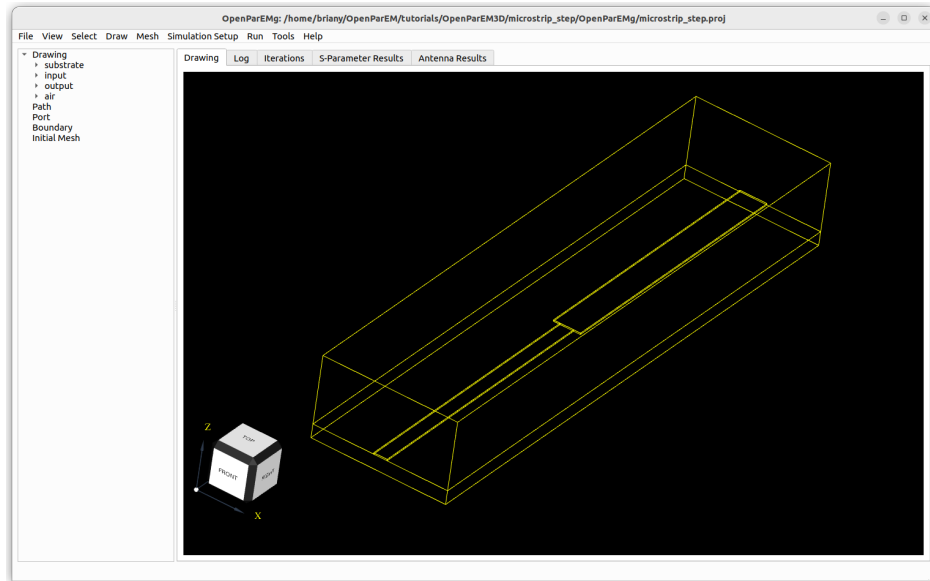

Figure 9: Substrate, input and output microstrips, and air.
- The drawing should now look like that in Fig. 9.